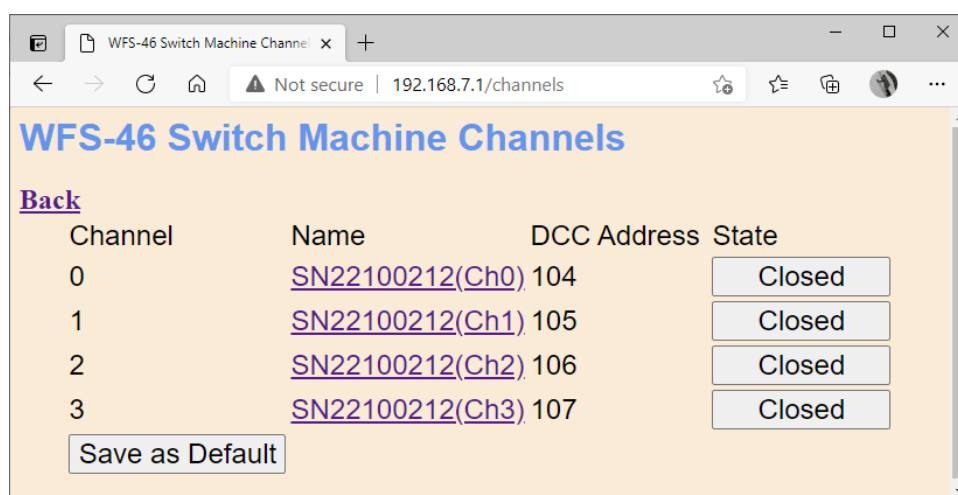

Figure 8 WFS-46 Web Pages – Switch Machine Channel List
- (3) To test the switch machine channels, click or tap the Switch Machine Channels option. You will see the screen in Figure 8. The names of each channel default to the serial number plus the channel number as shown. You can change these names later.